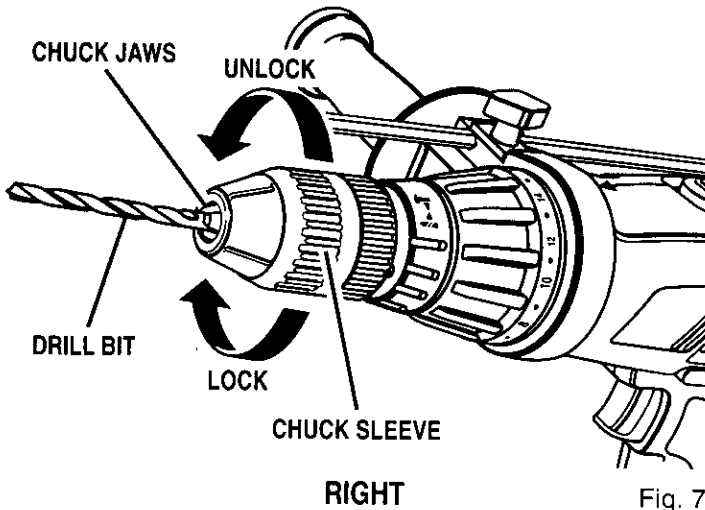

Fig. 7
See Figure 7.
- Insert drill bit into chuck the full length of the jaws as shown in Figure 7.